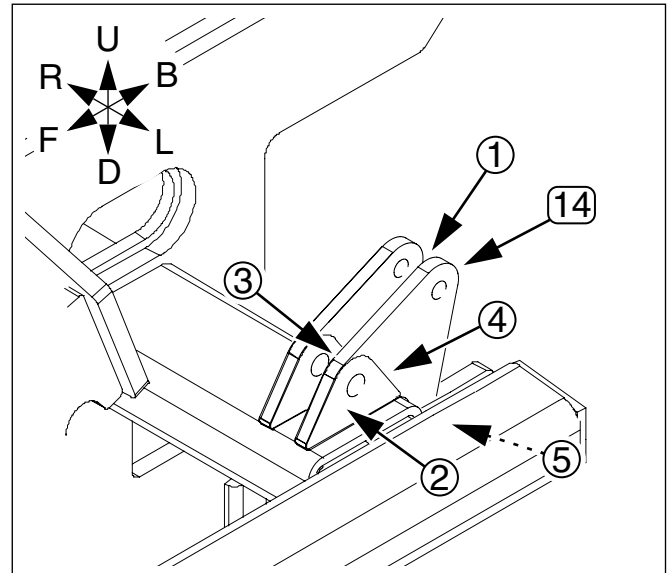

Figure 5
**Weld Ear Mount Extensions***Refer to Figure 5*